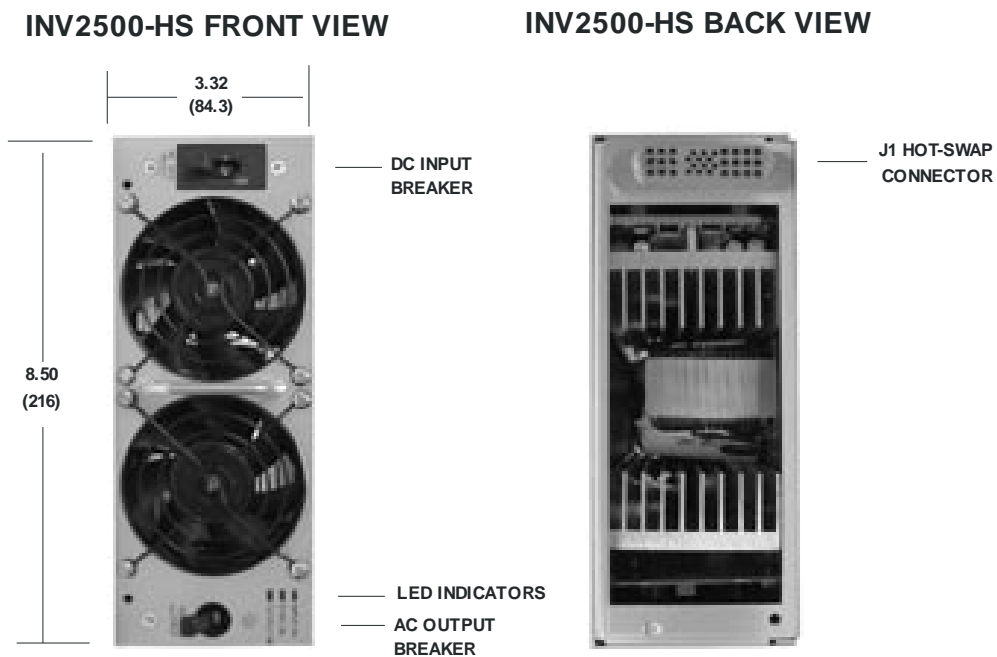

Figure 2 - Front and Back Views of Hot-Swap Inverter Module
7.1 Figure 2 shows the front and back of an INV2500-HS inverter module. On the top of the front panel of the INV2500-HS is the DC input circuit breaker. Just below are the two cooling fans and then the AC output circuit breaker. To the right of the output breaker from left to right are the green LED indicators for Output OK, Sync OK and Input OK.